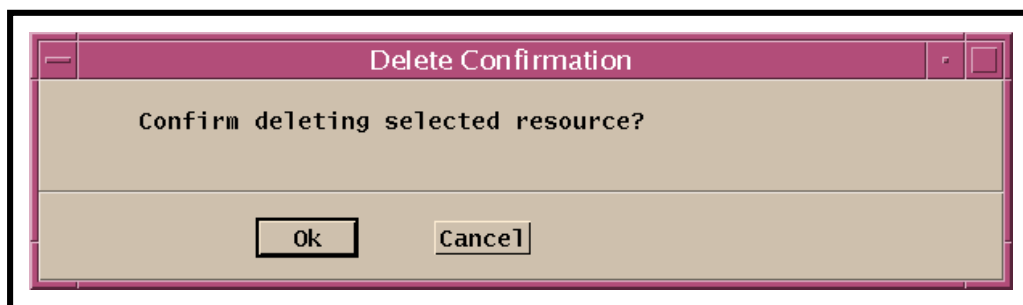

Figure 16. Delete Confirmation Dialogue Box
- A pop-up dialogue box (Figure 16) appears with the message, “**Confirm deleting selected resource?**”